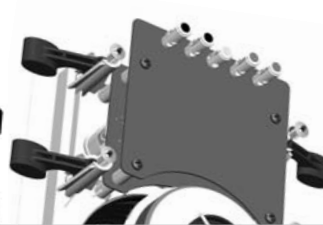

Fig 8: iw62 TDC
On the iw62 TDC optimum performance in single wire mode will be achieved if loudspeaker cable connections from the amplifier are made to the high frequency (HF) terminals of the loudspeaker – see Fig 8.
At the loudspeaker end connect the LF+ and LF- cables to the loudspeaker LF terminals, ensuring that you note the polarity markings on the cable sheathing. Then proceed to connect the HF+ and HF- to the HF terminals on the same loudspeaker – see Fig 8.
Bi-amping extends the principle of bi-wiring one stage further. In this connection option, separate power amplifiers are used for bass and treble signals in each loudspeaker. Ensure that the link cables have been cut and that correct polarity is maintained throughout. If two stereo amplifiers are used, it is recommended that one supplies bass information to the loudspeakers and the other, the treble information - see Fig 8.